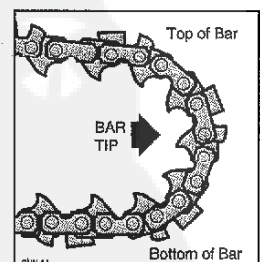

Figure 10
3. Install the chain loop over the drive links within the guide bar groove, and then align the chain over the drive sprocket. Make sure the cutter are properly oriented as shown in Figure 10. If the chain installation is difficult or if the chain appears too tight, refer to the section "Adjusting the Chain" on the next page.